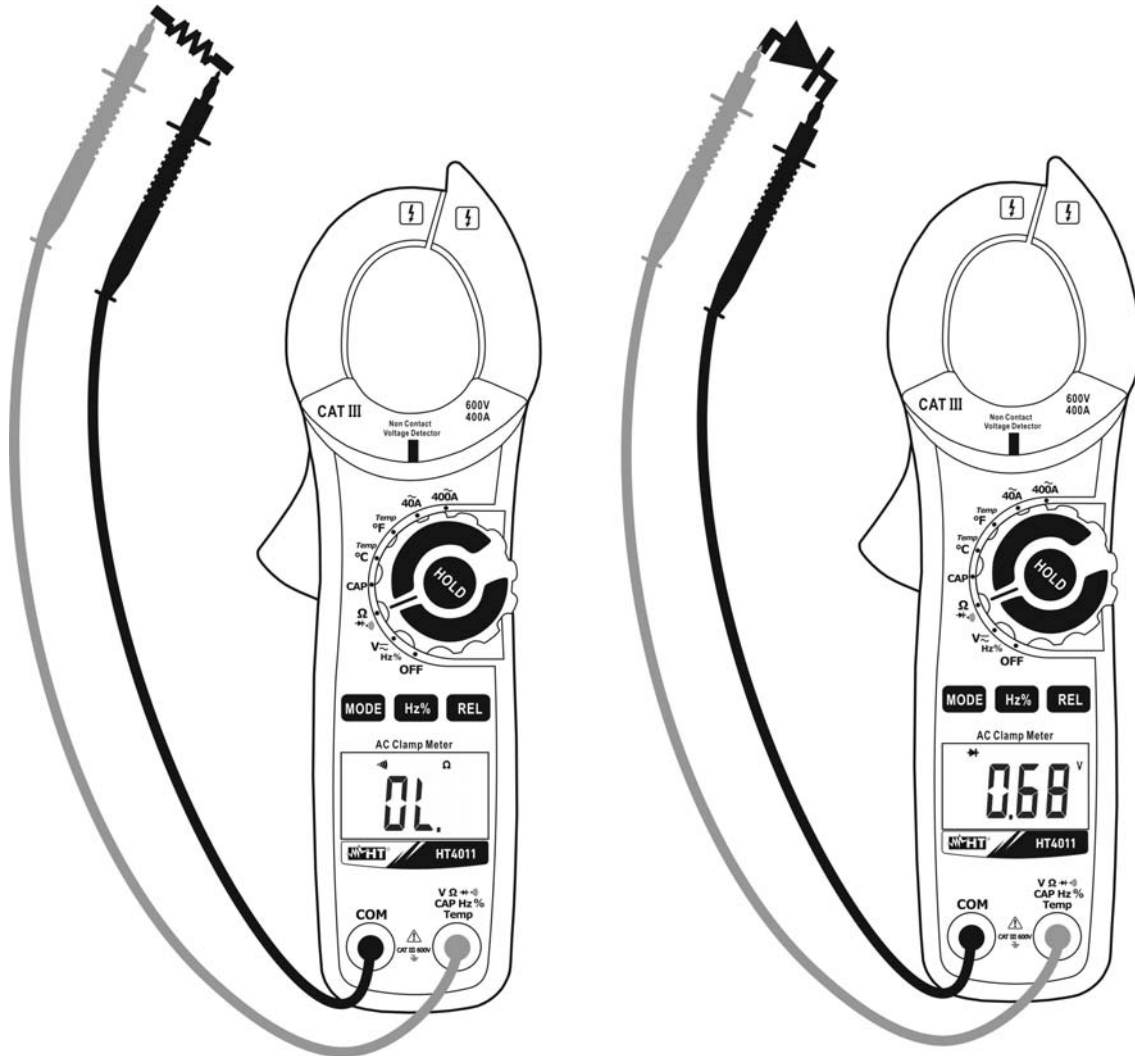

Fig. 7: Use of the clamp for continuity test and diode test
3. Insert the red cable into input terminal **VΩ $\rightarrow \rightarrow$ CAPHz%Temp** and the black cable into input terminal **COM** and carry out the continuity test of the object to be measured (see Fig. 7– left side). An buzzer sounds when the measured value of resistance is lower than 30Ω
5. Connect the red lead to the anode of the diode and the black lead to the cathode in case direct polarization measurement is carried out (see Fig. 7 – right side). Invert the position of the leads in case reverse polarization measurement is carried out.